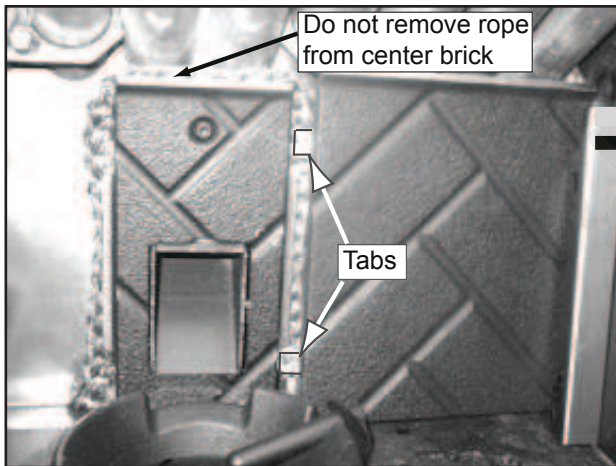

Figure 38.1
1. Place right brick in behind the right bracket and then slide to the left so the tabs are behind the center brick. **Figure 38.1.**